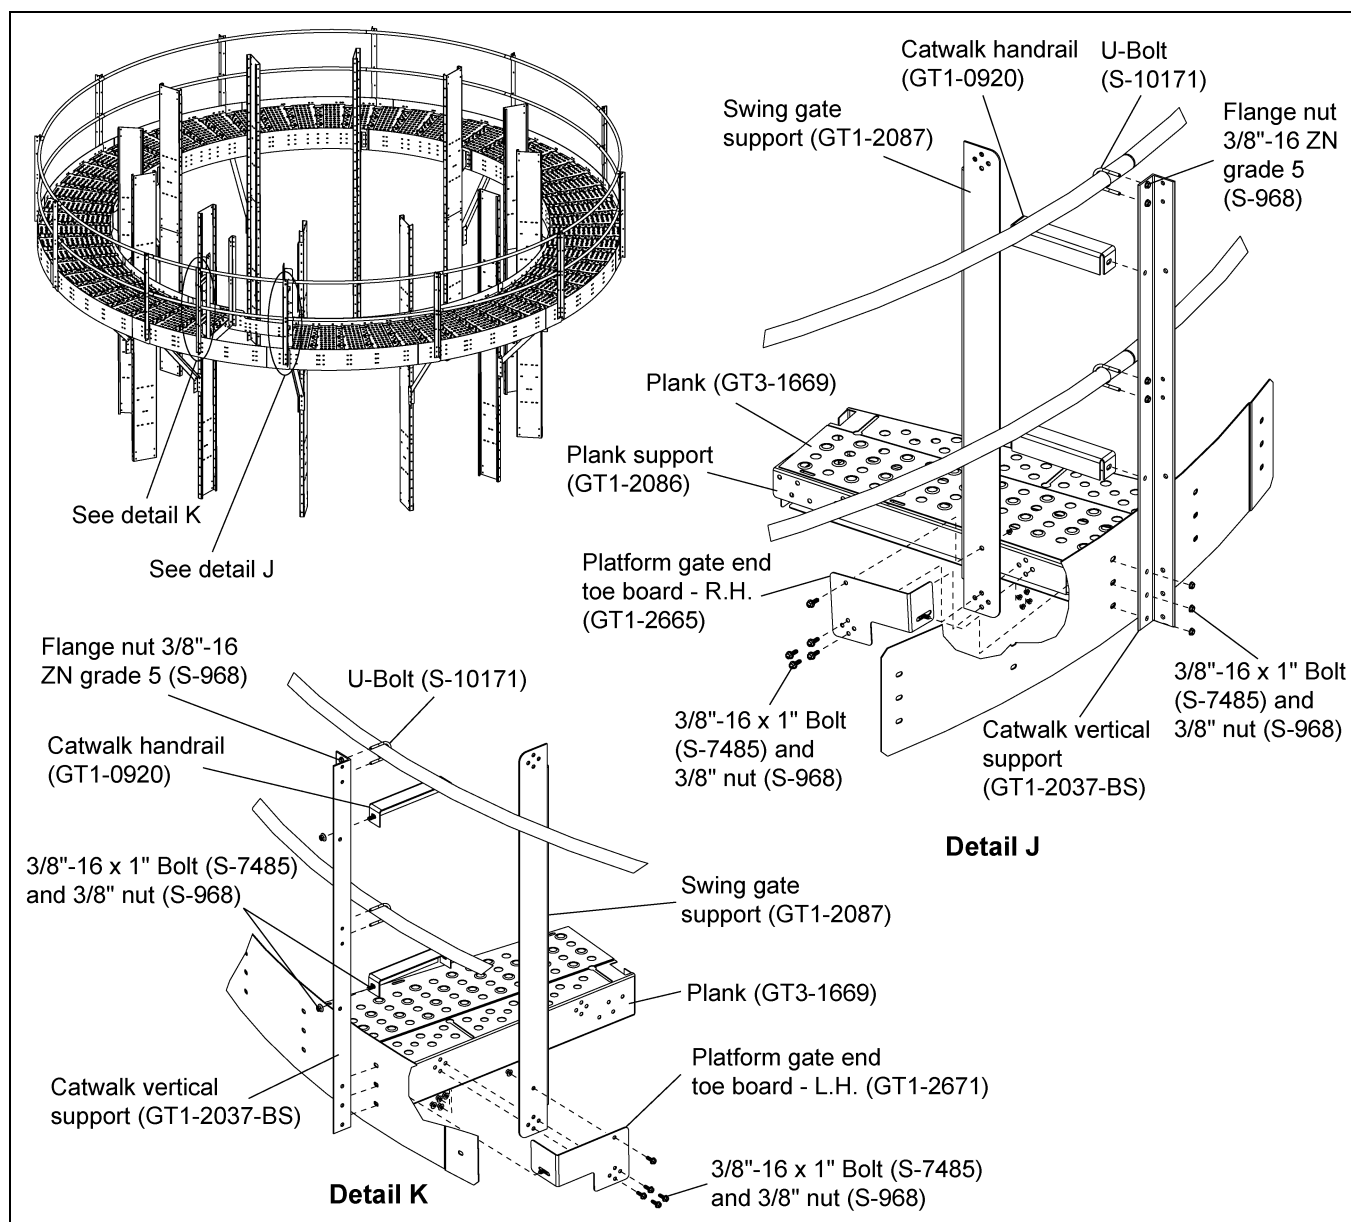

Figure 4X
1. Install the swing gate support (GT1-2087) and the gate end toe board (GT1-2665) to the plank support (GT1-2086) using 3/8"-16 x 1" JS grade 8 or grade 8.2 bolts (S-7485) and 3/8"-16 ZN grade 5 nuts (S-968). (See detail J in Figure 4X.)
2. Install two (2) catwalk handrails (GT1-0920) between the swing gate support (GT1-2087) and the catwalk vertical support (GT1-2037-BS) using 3/8"-16 x 1" JS grade 8 or grade 8.2 bolts (S-7485) and 3/8"-16 ZN grade 5 nuts (S-968). (See detail J in Figure 4X.)
3. On the other side, install the swing gate support (GT1-2087) the gate end toe board (GT1-2671) to the plank (GT3-1669) using 3/8"-16 x 1" JS grade 8 or grade 8.2 bolts (S-7485) and 3/8"-16 ZN grade 5 nuts (S-968). (See detail K in Figure 4X.)
4. Install two (2) catwalk handrails (GT1-0920) between the swing gate support (GT1-2087) and the catwalk vertical support (GT1-2037-BS) using 3/8"-16 x 1" JS grade 8 or grade 8.2 bolts (S-7485) and 3/8"-16 ZN grade 5 nuts (S-968). (See detail K in Figure 4X.)